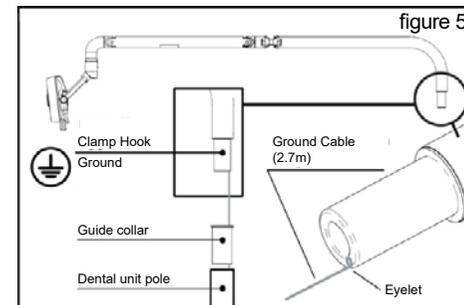

figure 5
point grounding on the lower part of the arm shank (M3 thread) using an eyelet as shown in **Figure 5** and an earth cable yellow / green with minimum AWG section 24. Connect the other end of the earth cable to the terminal block present in the unit.
6. To connect the grounding, connect the eyelet of the cable with the lamp shank as shown in **Figure 5**. Then connect the other side of the cable with the earth point (variable depending on the model of unit or installation).